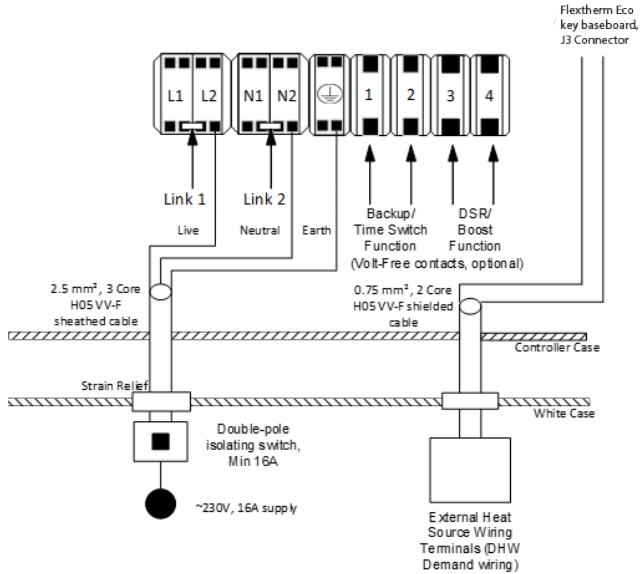

Figure 11 - Flextherm Eco G2 D Heat Battery wiring without solar power diversion
- Without Solar Power Diversion follow (Section 6.4.1, Figure 11)